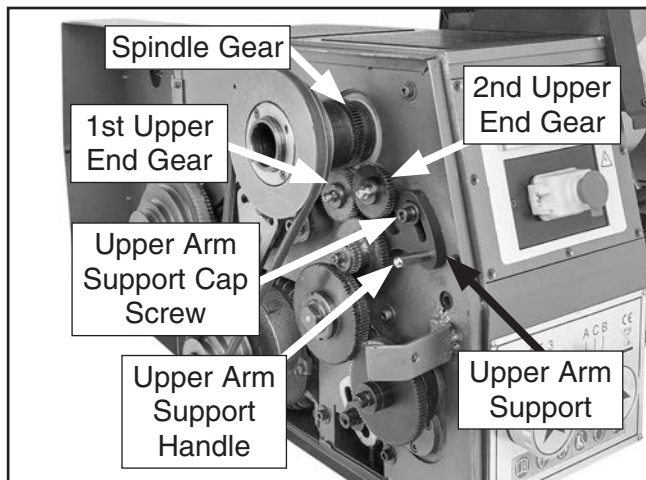

Figure 74. Reverse threading end gear components.
For reverse feeding operations, the upper end-gear arm support (see **Figure 74**) must be repositioned so the 2nd upper end-gear meshes with the spindle gear.
3. Loosen upper arm support cap screw shown in **Figure 74**.